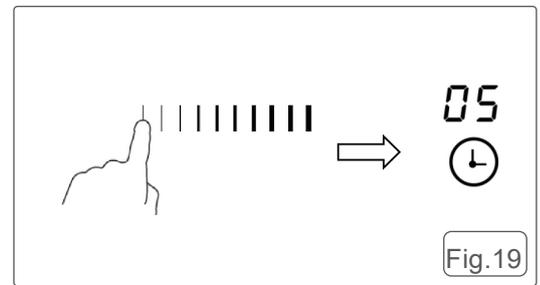

Fig.19
3. Set the time by touching the "slider" control. Fig.19